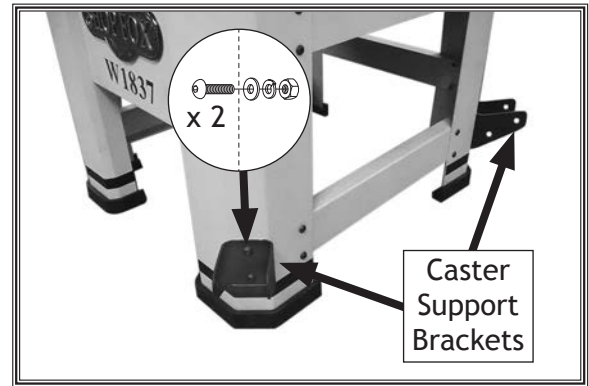

Figure 12. Caster support brackets installed on stand legs.
2. Install each of the two caster support brackets onto right front and rear stand legs using (2) M8-1.25 X 16 button head cap screws, (2) 8mm flat washers, (2) 8mm lock washers, and (2) M8-1.25 hex nuts (see **Figure 12**).